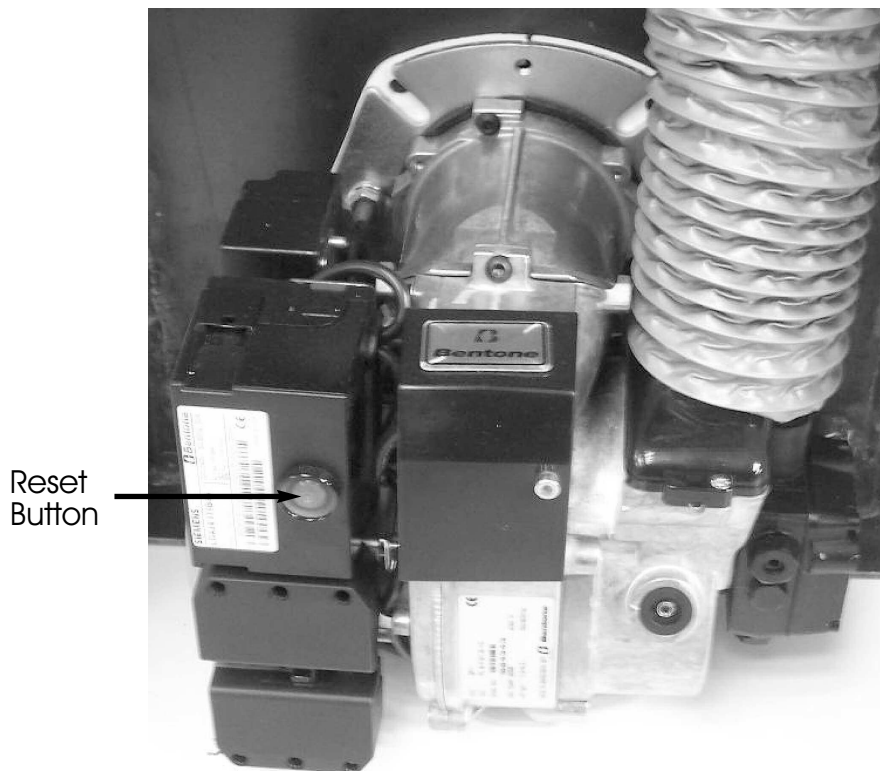

Fig. 1
When the boiler has had time to cool, the manual reset button (coloured red) (Fig. 1) on the control panel will need to be pressed in to reset. If the high limit thermostat continues to trip, contact your installer as there may be a fault with the central heating system.
- Depress the red Burner Reset Button on the burner Control Box, which will be illuminated. The Burner Reset Button (illuminated) (Fig. 1) on the Control Panel will go out and the burner will commence the ignition start sequence. After 15 seconds the Burner should fire normally.